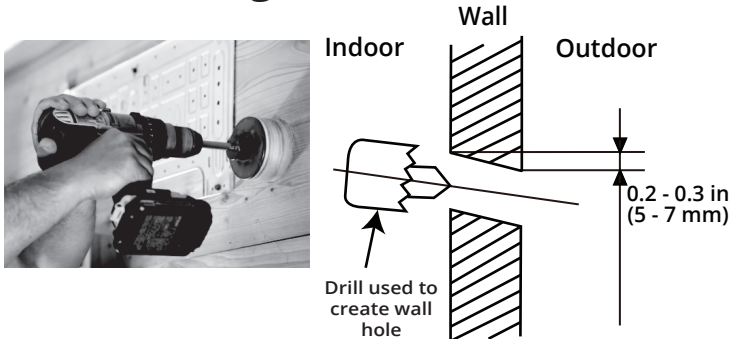

Fig. 5.3
2. Using a core drill, with a 3.54 in (90 mm) diameter, drill a hole in the wall at a slight downward angle, so that the indoor end of the hole is higher than the outdoor end of the hole, by approximately 0.2 in to 0.275 in (5 mm to 7 mm). This will ensure proper water drainage from the indoor unit (See Fig. 5.3).